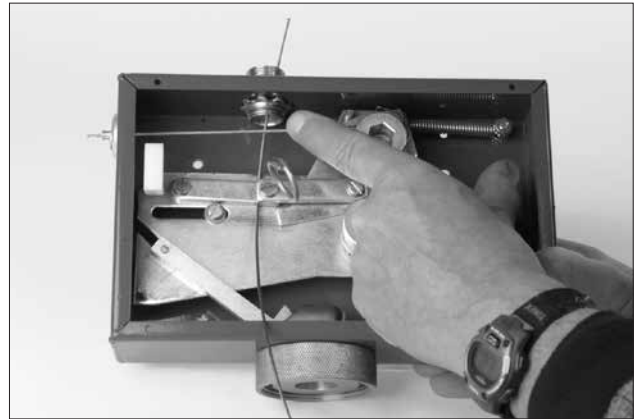

FIGURE 4-57
- Starting at the PYRO-CHEM control head, connect the conduit connector using the supplied nut. Use only PYRO-CHEM Conduit Fittings (Part No. 55813). See Figure 4-57.